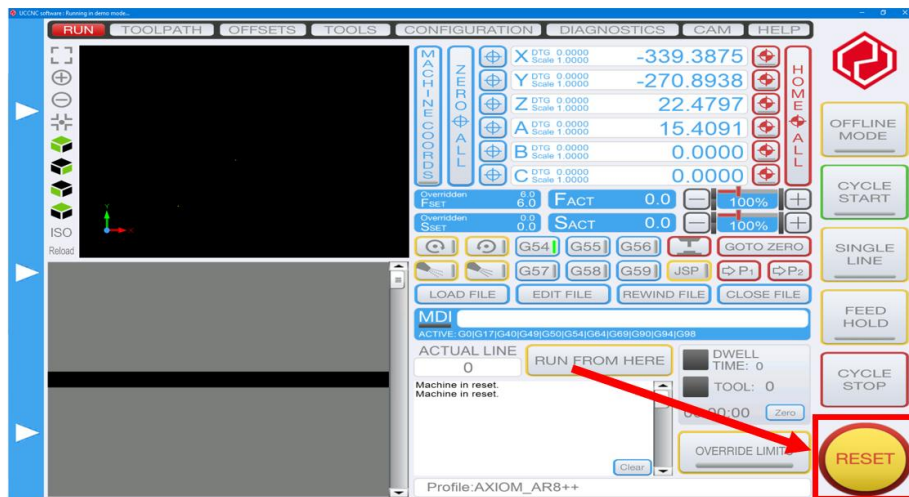

Figure 30: Reset button on UCCNC front panel
- Hit the reset button (it should be flashing yellow and red and is shown in Figure 30). Once clicked it should remain solid red in colour. You should now be able to control the machine with your UCCNC software